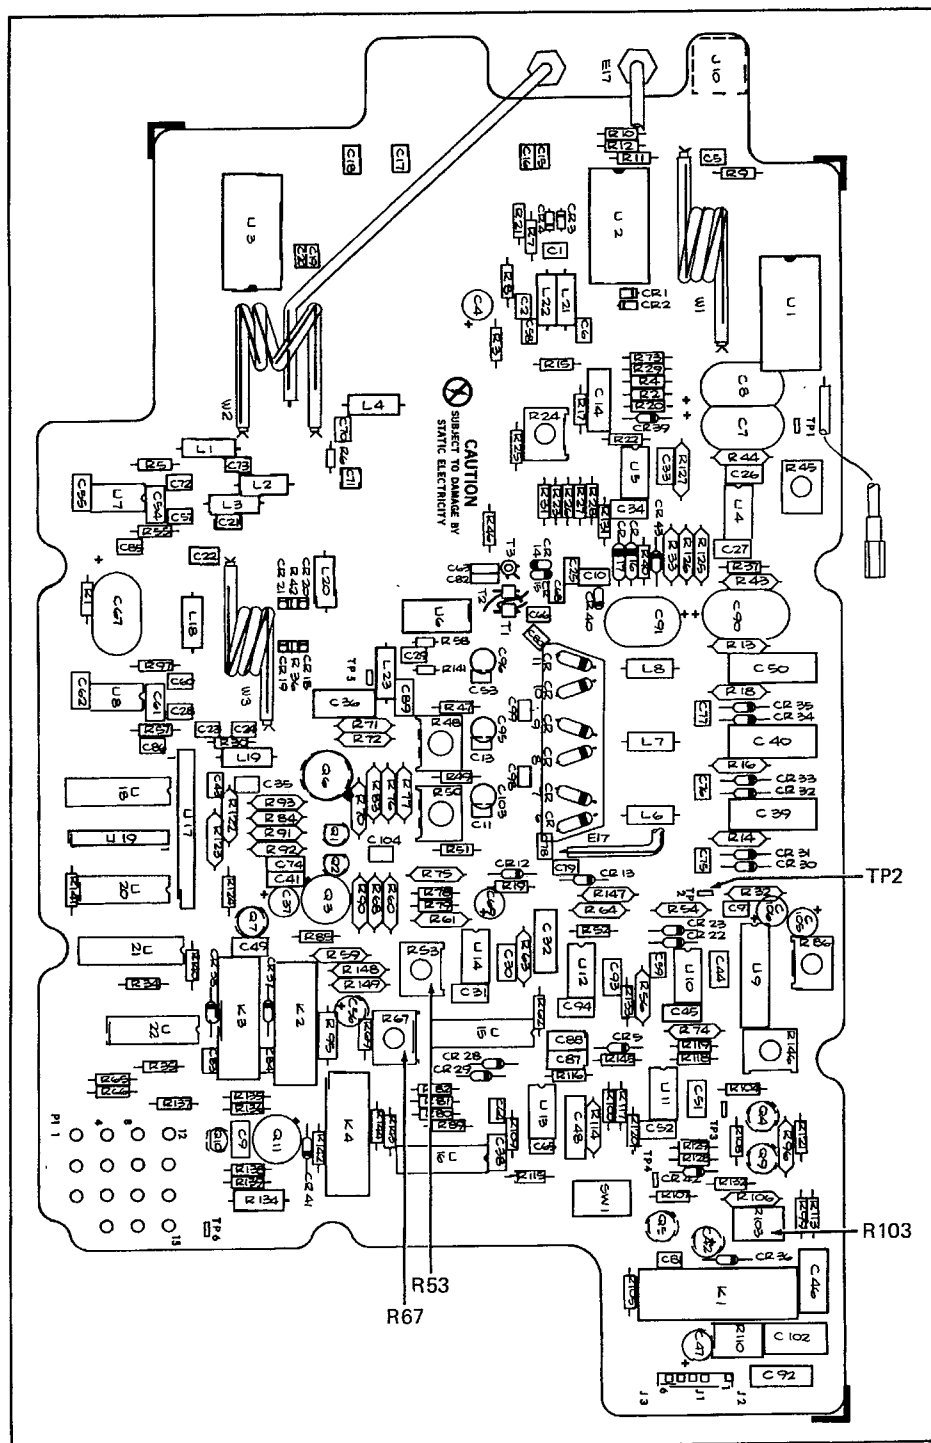

Figure 6-8. A3A3 Delay Discriminator PCB
13. Adjust R103 on the A3A3 Delay Discriminator PCB (Figure 6-8) for a Modulation Analyzer reading of 100.1 kHz.
21. Connect the oscilloscope to TP2 on the A3A3 Delay Discriminator PCB (Figure 6-8) and adjust R67 for a Modulation Analyzer reading of 100.1 kHz. If the signal on TP2 is greater than 0.7V peak-to-peak, adjust R67 until the signal at TP2 is 0.7V peak-to-peak. Verify that the Modulation Analyzer reading is <102.2 kHz. Record the reading.
24. Adjust R53 on the A3A3 Delay Discriminator PCB (Figure 6-8) until the Modulation Analyzer reading is the same as the reading recorded in Step 20.